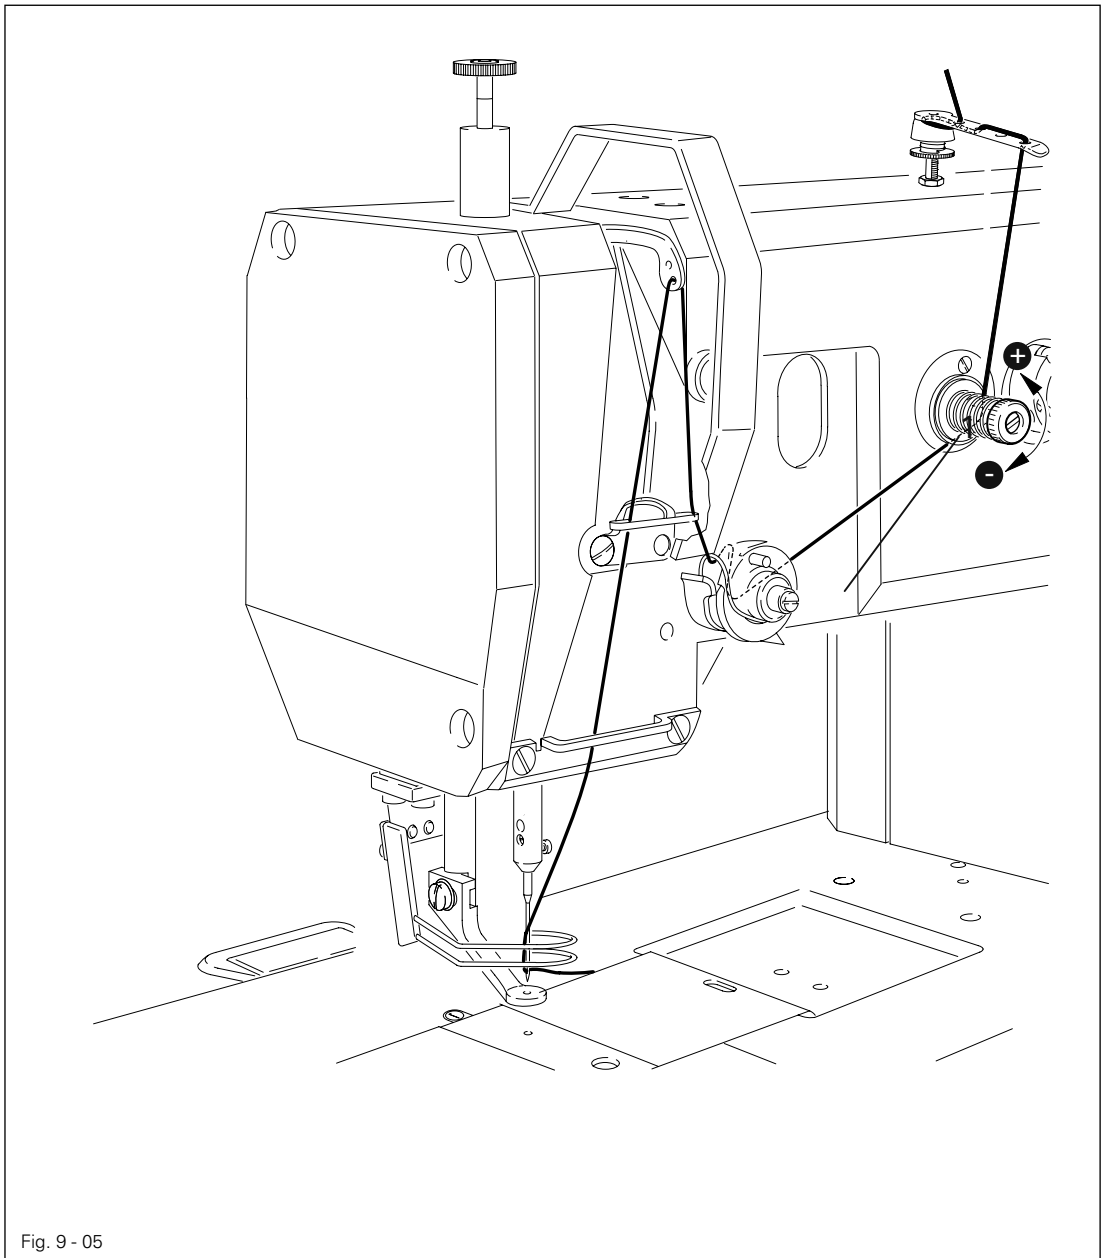

Fig. 9 - 05
- Insert the bobbin as shown in Fig. 9 - 04.
- Thread the needle thread as shown in Fig. 9 - 05. Please ensure that the needle is threaded from the left.